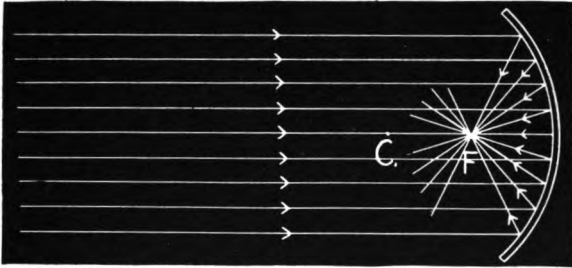
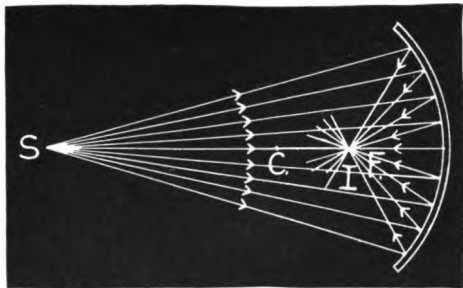

FIG. 67
FIG. 68
If a series of parallel rays strike a plane mirror (Fig. 59a) they will be reflected parallel, since the incident rays, as well as the normals, are parallel. If such a series strike a concave mirror (Fig. 67) they will be converging (coming together) on reflection, and in the case of a convex mirror they will be diverging (separating) on reflection. The normals on curved mirrors are the radii of the curves.
Rays of light coming from the sun are, as before mentioned (Section 107), considered as parallel. Each one of these rays striking a concave mirror will be reflected toward the principal axis, on the other side of the radius drawn to the point of incidence. They will cross or focus at the principal focus (Fig. 67).
If we consider the source of the light as coming from a candle flame not far away, the rays will be no longer parallel, but diverging (Fig. 68). Such a pencil of rays will make less angles of incidence than did the parallel rays of Figure 67. They will not, therefore,
**109. Conjugate Foci.** If the source of light in Figure 68 is *S*, the image will be at *I*. *Vice versa*, if the source is at *I*, the image will be at *S*. Thus object and image are interchangeable, and the two foci are called *conjugate foci*.